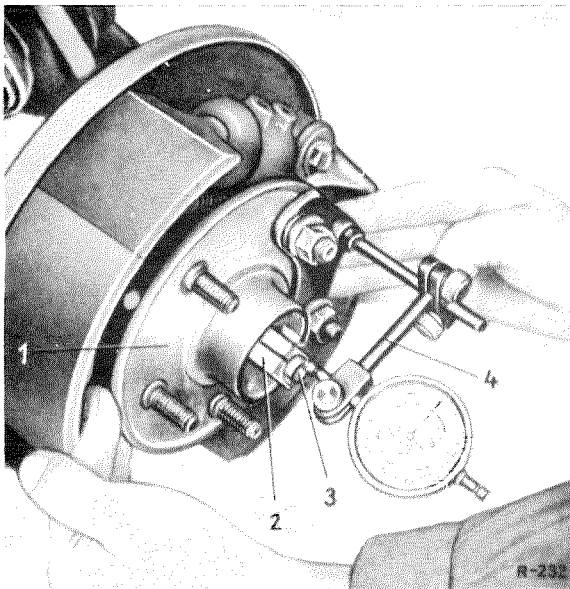

Fig. 33—4/11
34. Clamp the dial gage in the jaws of the tester in such a way that the dial gage feeler rests against the wheel spindle (3) with an initial tension of 1—2 mm.
35. By slowly tightening the clamping nut, adjust the wheel hub so that there is an end play of 0.000 to 0.005 mm (Fig. 33—4/11).